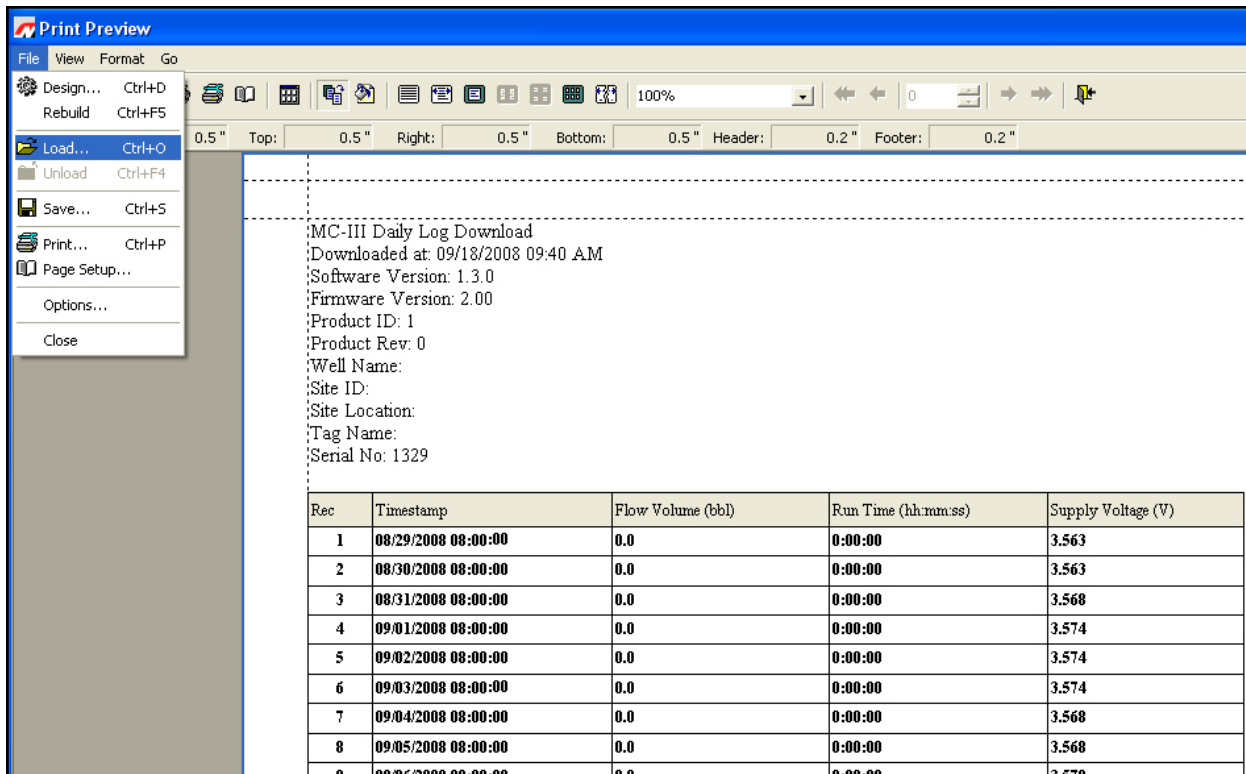
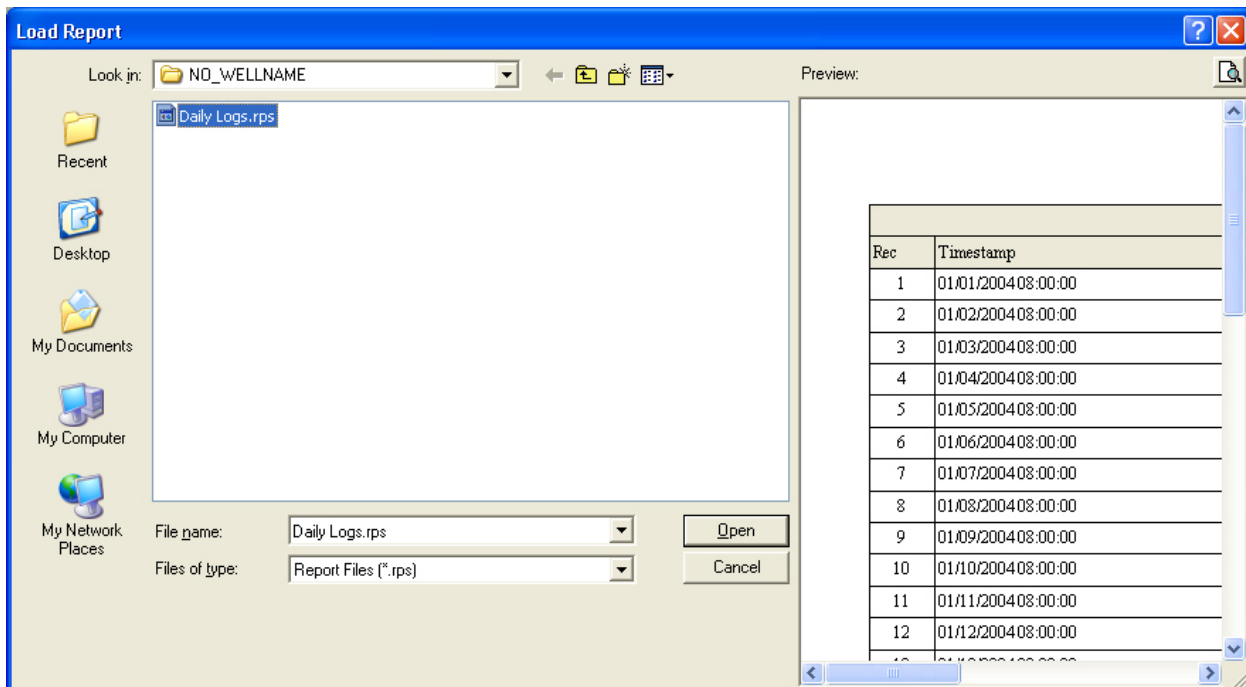

Figure 5.10—Menu for loading a saved report
Figure 5.11—Load Report screen for viewing saved flow log reports
2. Select File>Load from the task bar at the top of the page (*Figure 5.10, page 80*). A Load Report window will open (*Figure 5.11, page 80*).